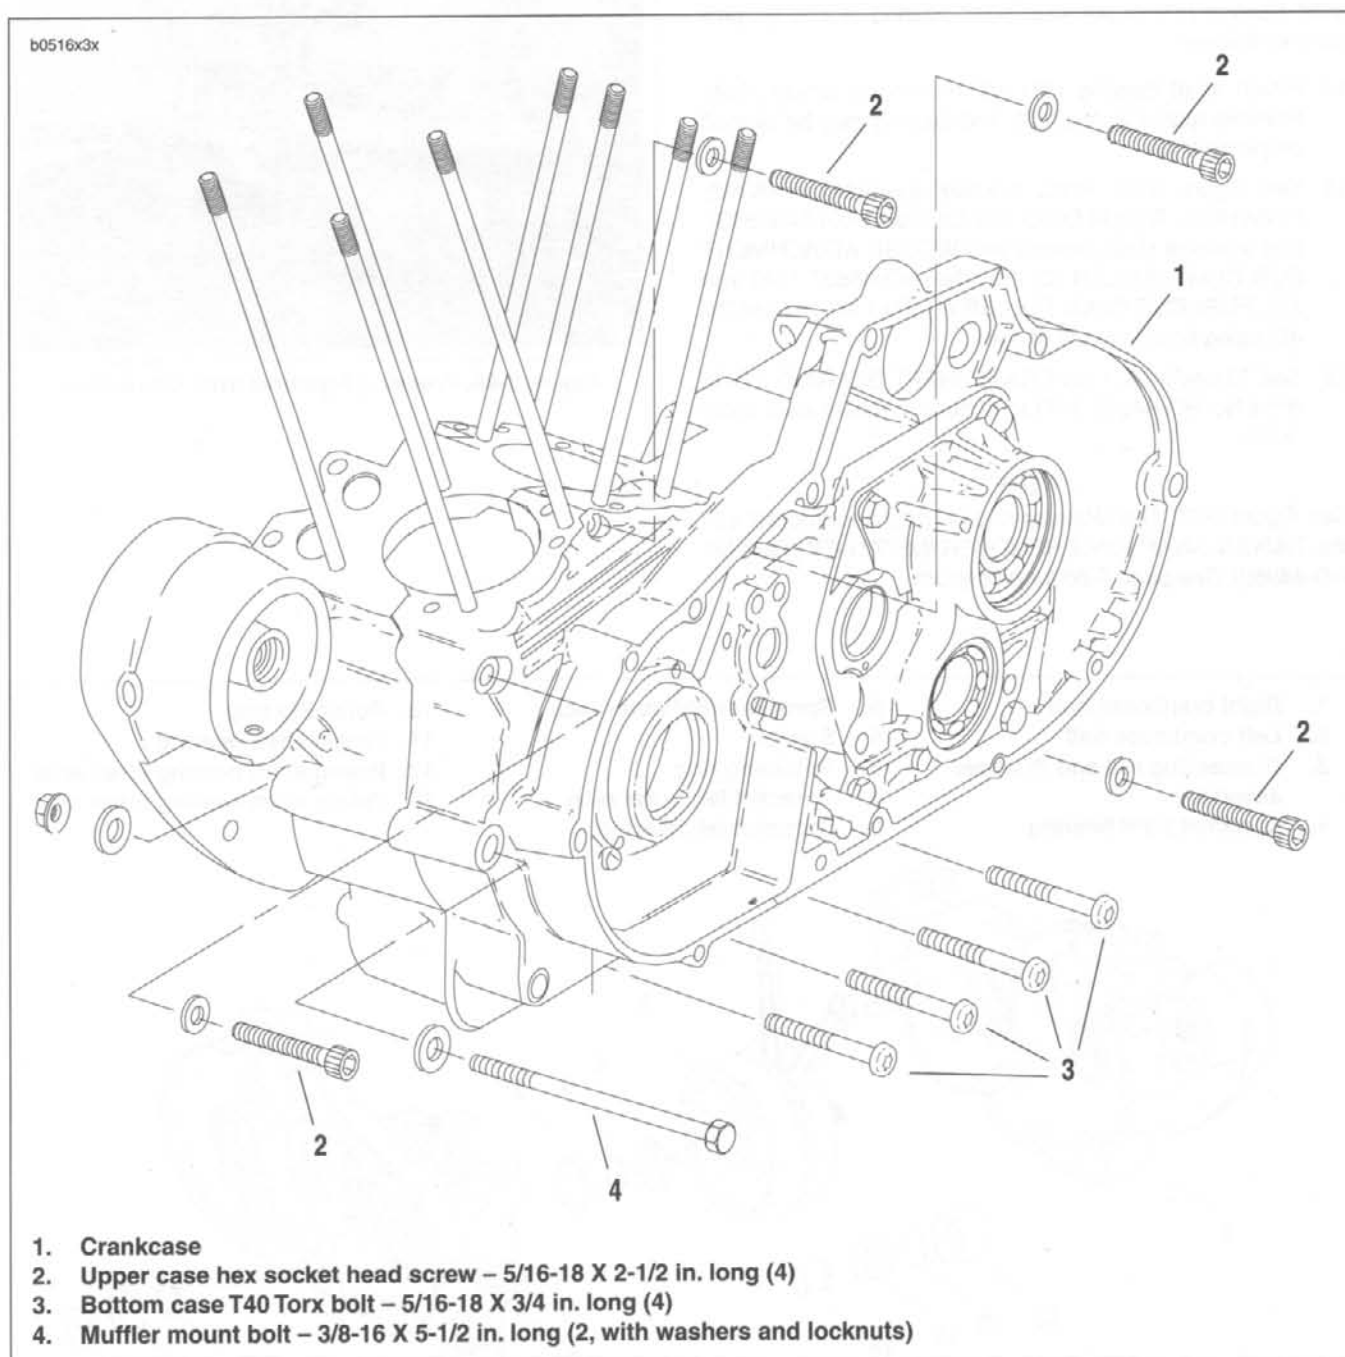

Figure 3-94. Crankcase Hardware
8. See Figure 3-94. Remove screws and rear engine mount bolt securing crankcase halves together.